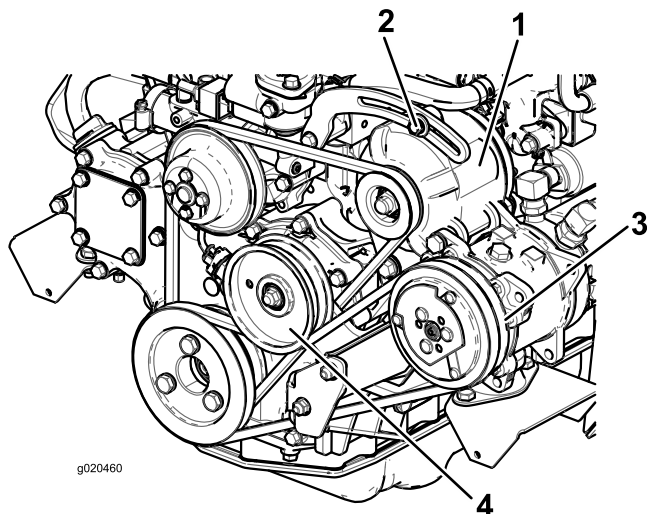

Figure 72
If the deflection is not 10 mm (3/8 inch), loosen the alternator-mounting bolts (Figure 72).
2. If the deflection is not 10 mm (3/8 inch), loosen the idler pulley mounting bolt (Figure 72).